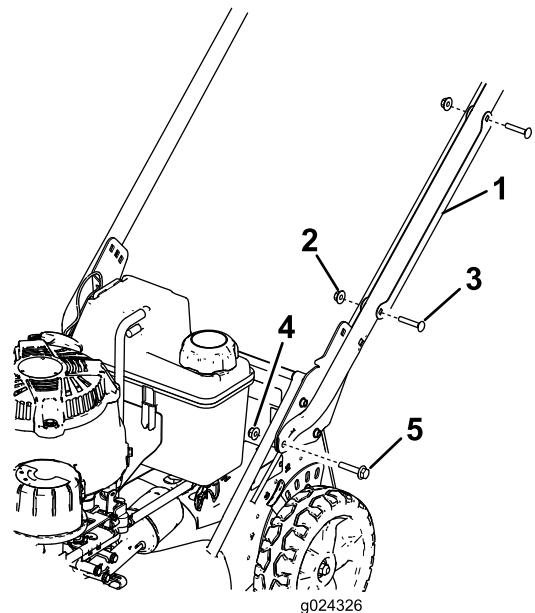

Figure 3
1. Remove the cable guard from the handle (Figure 3) by removing the 2 carriage bolts and 2 locknuts that hold the cable guard to the handle.
2. Install the handle ends onto the machine housing with 2 hex-head-flange bolts (5/16 x 1-1/2 inches) and 2 flange nuts (5/16 inch) as shown in Figure 3.
handle with the 2 carriage bolts and the 2 locknuts that you previously removed (Figure 3).